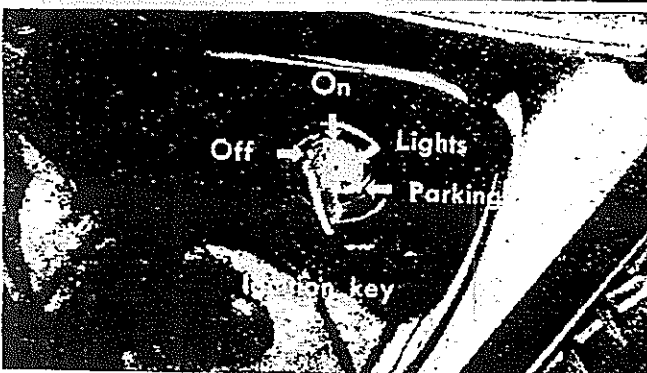

Fig. 3
- (3) Turn ignition key to "ON" position (Fig. 3.)
- (4) If green light does not show, the machine is in gear.
- (5) Kick the kick pedal.
- (7) After the engine starts, idle at low speed for 2 minutes.
- (8) Caution: Do not overlook to return the starter lever to the cruising position after the engine has warmed up.
- (9) The machine is now ready to be driven.